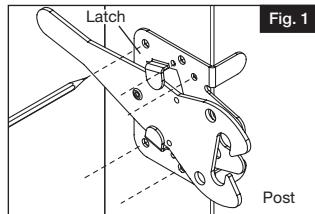

Fig. 1
- b. Hold latch against the side of the post and mark locations of pilot holes, as shown (Fig. 1).